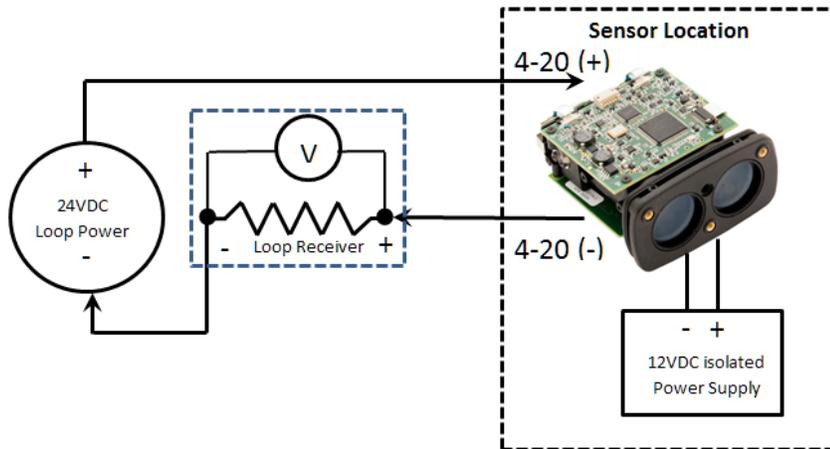
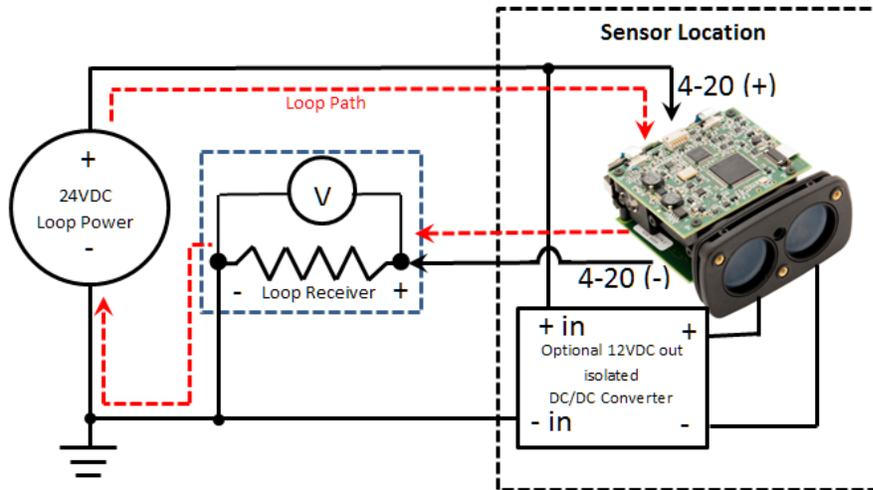

Figure 2
Figure 3
1. **Two Wire:** One wire will be the 4-20(+) and the other will be the 4-20 (-). A second isolated power source would be used to power the TruSense sensor. See Figure2:
2. **Three Wire:** In this wiring configuration, at the Transmitter location you would have + 24VDC, Common (Ground) and Receiver 4-20 (+). Figure 3 shows leveraging the 24VDC loop power to a DC/DC isolated converter to power the TruSense. The current path for the 4-20 Loop is shown in red. **Important:** The Loop power supply must have a minimum current rating of 350mA to provide enough current for the 4-20 Loop and TruSense S\_30. If the Loop Power supply is shared, it must be rated to supply enough current for each sensor 4-20 Loop.
In summary, in all three wiring configurations, the current loop has only one path through the Transmitter (TruSense S\_30) and Receiver in relationship to Loop power. Figures 3 and 4 demonstrated the use of a DC/DC isolated power converter to provide power to the TruSense S\_30. An inexpensive DC/DC isolated converter was tested with the TruSense instrument which was RECOM REC5-2412SRW/H2/A. This device provides 2kVDC isolation and will tolerate loop voltages from 18 to 28 volts DC. **A separate isolated power supply can be used to replace the user supplied DC/DC converter as long as it is isolated from the 4-20 Loop.** For purchase, LTI has a 110/220/AC to 12DV power supply available (OEM /Ruggedized housing part number 7054691). Figure 2 shows the connection. Note: Each sensor would need its own power supply.